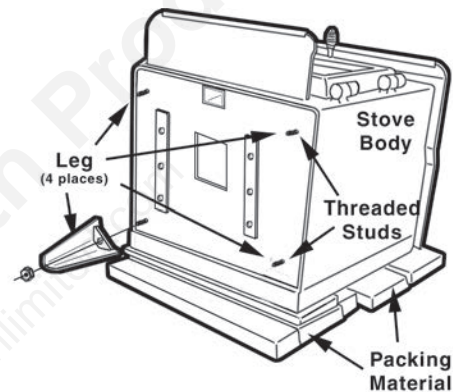

Figure 2 – Attach Legs to Stove Body
4. Remove mounting hex nuts from studs (figure 2).